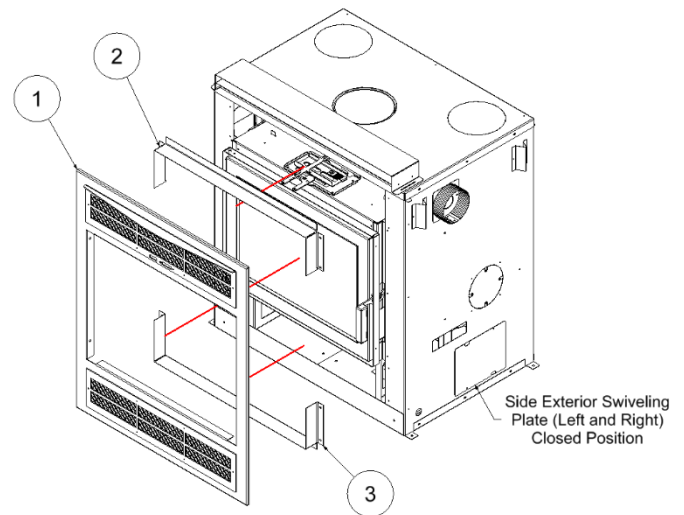

Figure 3-9: Traditional Surround
The Traditional surround comprises louvers below (intake) and above (outtake) the door. All components and fasteners are included in the surround kit. Refer to Figure 3-9 and Table 3-3 for the instructions below.
2. Fasten the Top and Bottom Surround Bracket (Item 2 and Item 3 respectively in Figure 3-9) with 4 metal screws each.
3. Place the Traditional surround (Item 1 in Figure 3-9) within the door holder and secure it in place with four black screws (one on each corner). Make sure that the handles of the Combustion Air Control pass through the slots of the surround.
5. Secure the Intake Swivel Covers on the bottom sides of the unit to the closed position (Figure 3-9). **WARNING: For Traditional surround installations only.**